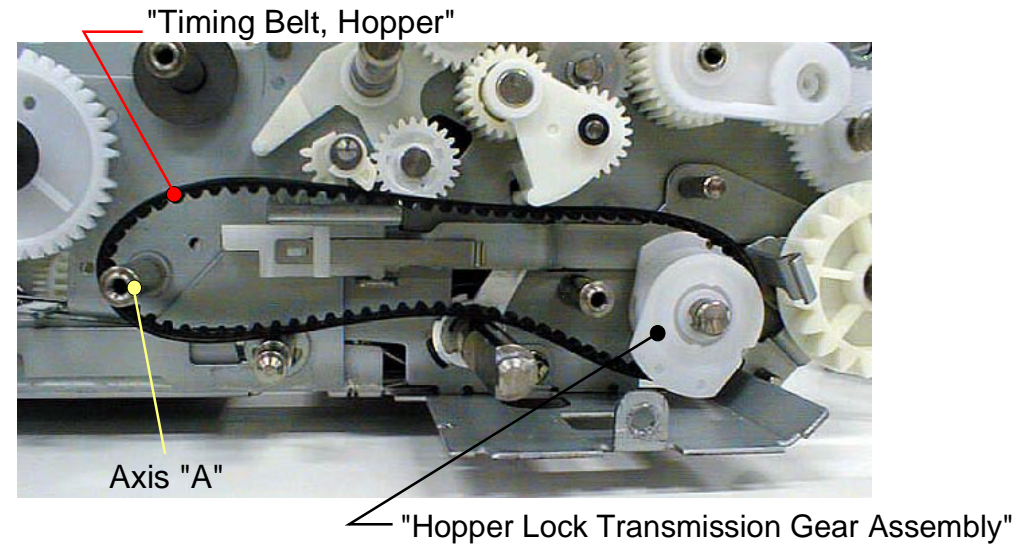

Figure 4-89. Fixing "Timing Belt, Hopper" Temporarily
5. Hang the one side of "Timing Belt, Hopper" on "Hopper Lock Transmission Gear Assembly", and hand the other side on axis "A" temporarily. (Refer to Figure4-89)